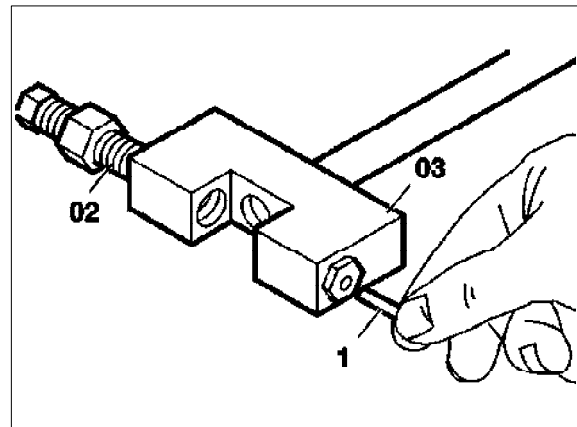

Figure 4
11. Unscrew link remover mandrel (02) and then remove link removal tool (03) from old timing chain (Figure 4). The timing chain is now separated.
12. Remove pressed out timing chain link pin (1) from link removal tool (03) (Figure 4).